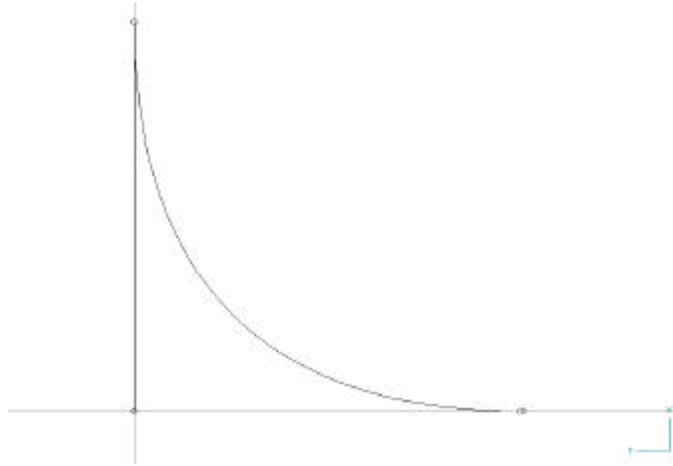

Figure 2-3: Front view of Midship Curve
4. Select the middle vertex and drag it to max beam and to the baseline. Watch the readout at the bottom of the screen. Release the mouse button when the is at vertex at  $T = S3$  and  $V = 0$ . (See Figure 2-3.)